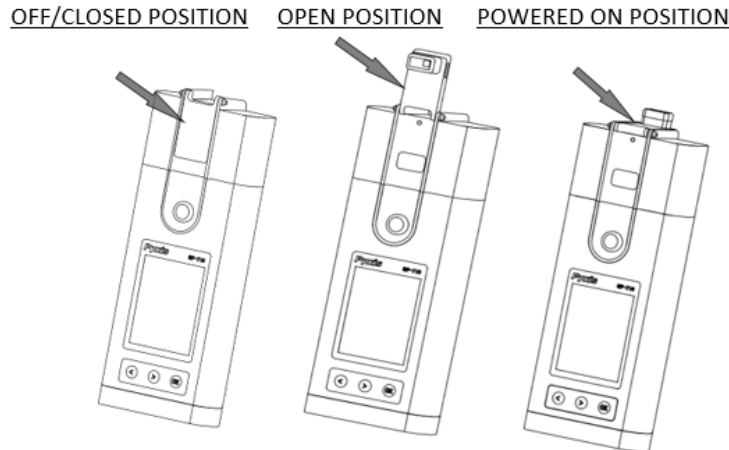

Figure 5.
The module is turned on by rotating the pH/ORP cell seal to touch the front face of the module as seen in Figure 5. A sealed magnet within the rubber seal will trigger the module power circuit. The pH/ORP module will turn itself off when either commanded by the main module or automatically based on the default or customized idle time limit setting. The purpose for this design is to extend battery life.
1. Rotate the pH/ORP cell seal to touch the front face of the module as seen in Figure 5. This is to power on the module. The indicator light of the module will be **green** and flashing when powered on. After the module is turned on, the seal can be positioned anywhere desired.